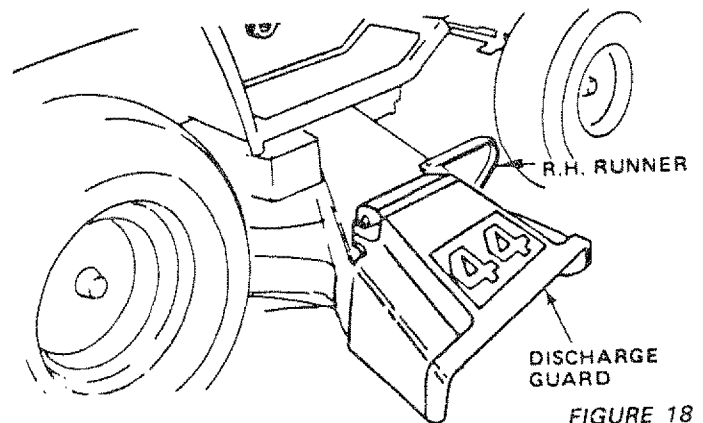

FIGURE 18
- Use the runner on the R.H. side as a guide; the blade cuts approximately an inch outside the runner (Fig. 18).
Your mower has a flip-up discharge guard (Fig. 18) for door or gate clearance when held in raised position.